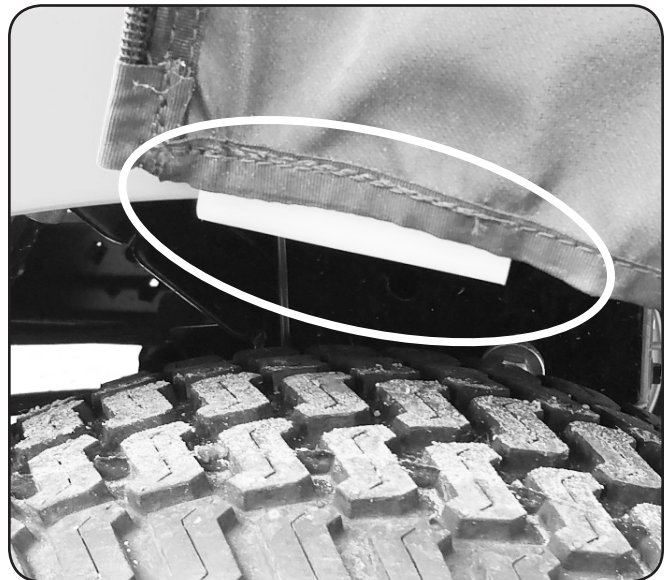

Figure 3-12
5. The outer rear clips clip onto the fenders near the wheels. See Figure 3-12.